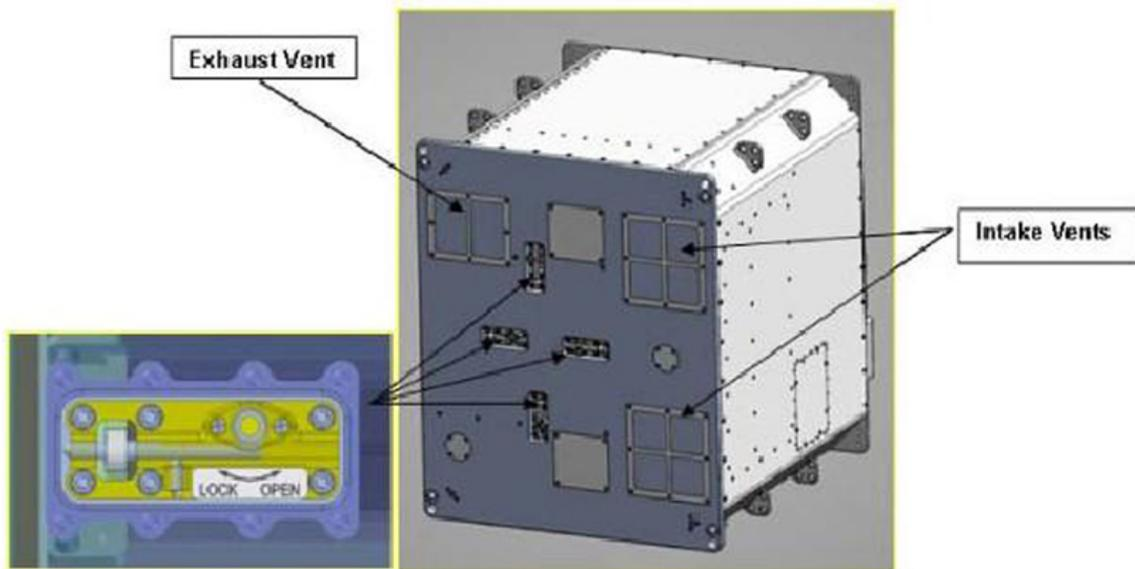

Figure 2. Cryocooler Launch Locks and Vents on Rear of Glacier.
9. Clean the Glacier rear intake and exhaust vents with Gray Tape. Refer to Figure 2.
10. Push in and rotate clockwise cryocooler launch locks (four) at rear of Glacier until locking pin is engaged (LOCK) (3/16" Hex Head, 1/4" Drive; Driver Handle, 1/4" Drive). Refer to Figure 2.